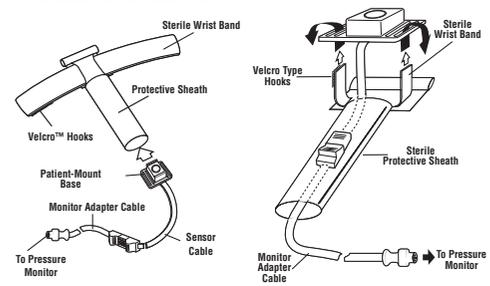

Fig. 3A: Insertion of patient-mount base and monitor adapter cable into sterile protective sheath.
- If sensor cable is already connected to monitor cable, thread previously cleaned sensor base through tubular section of protective sheath until entire sensor base extends beyond tube. (SEE Fig. 3A & 3B). If cables are not connected, connect before proceeding. Sensor cable and adapter junction will now be protected by sheath.